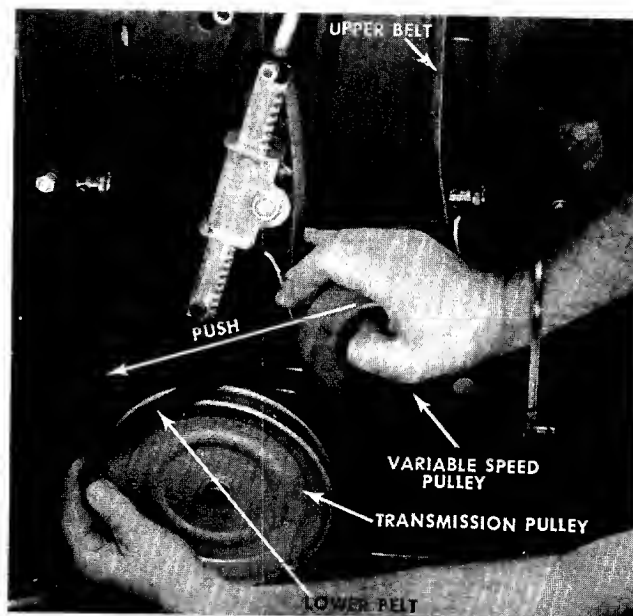

FIGURE 32. LOWER BELT REMOVAL
- Step 10. While pushing the variable speed pulley towards the center of the rider, remove the lower belt from the transmission pulley. See figure 32.